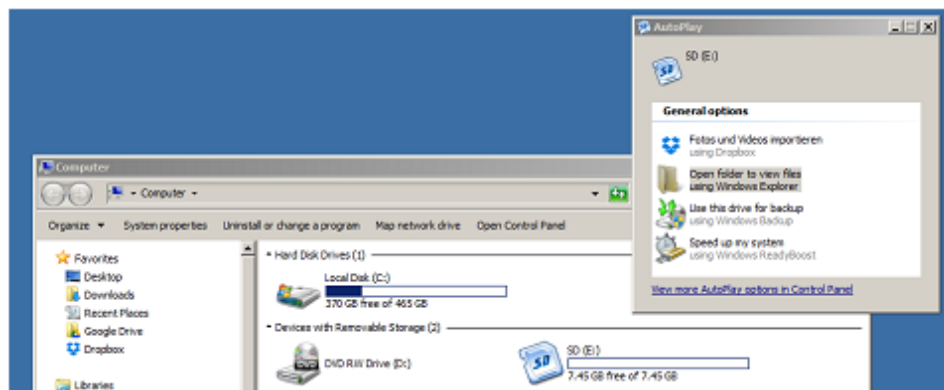

Figure 9 – Windows Explorer View
3.3 Click “open folder to view files using windows explorer”, see Figure 9.